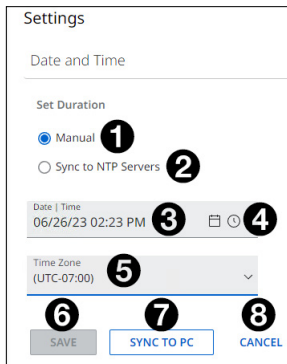

Figure 9. Date and Time box
1. Select **Sync to NTP Servers** (see figure 9, ②).
1. Select the **Manual** radio button (see **figure 9**, **1**, on page 18).